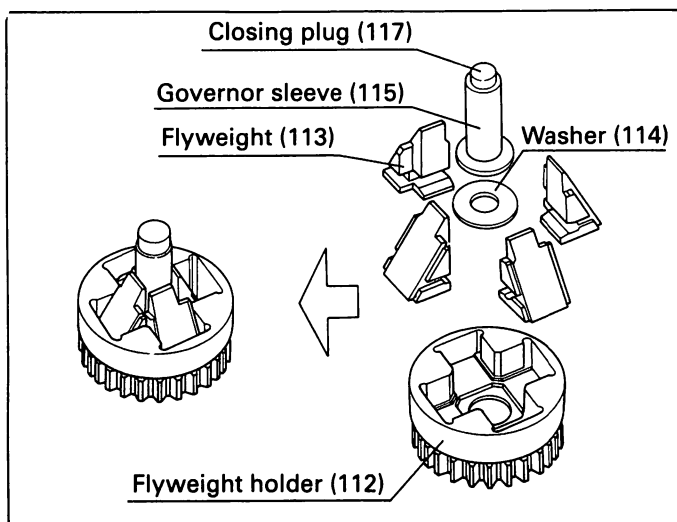

Fig. 79 Flyweight assembly diagram
2. Install the washer (114) and governor sleeve (115), fitted with the closing plug (117), in the flyweight holder. (Fig. 79)